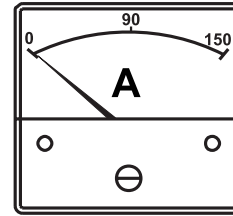

Figure 10. Ammeter (No Load)
8. The **ammeter** (Figure 10) will indicate **zero amps** with no load applied. When a load is applied, the ammeter will indicate the amount of current that the load is drawing from the generator.